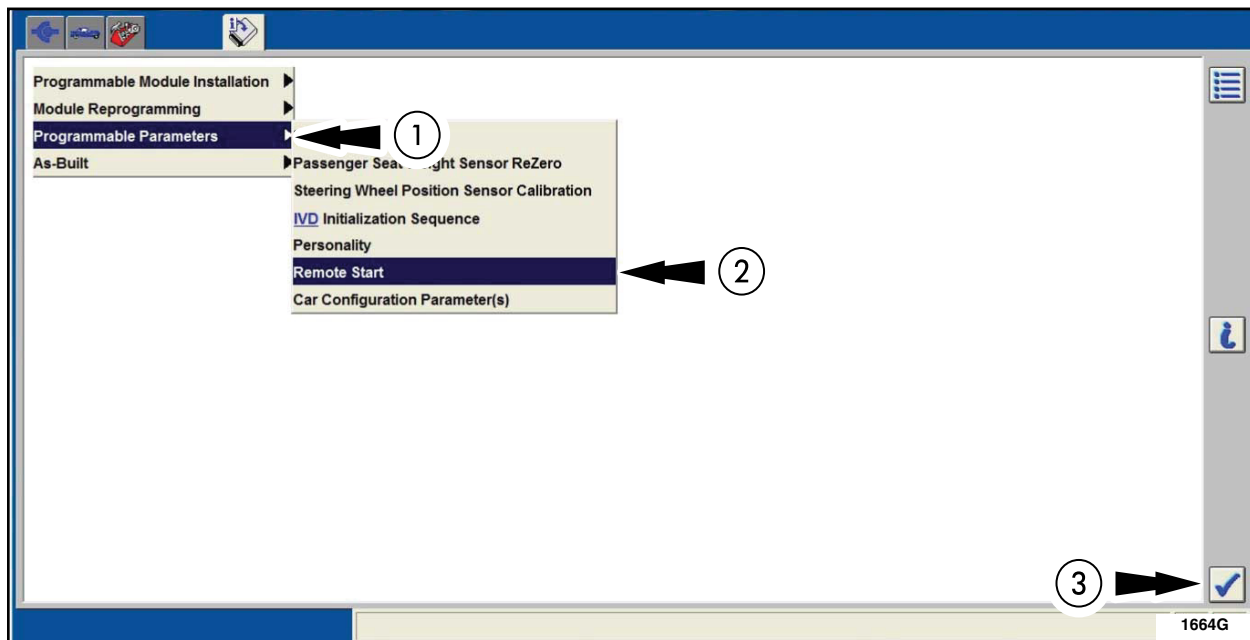

FIGURE 13
5. Return to Programmable Parameters (1) and then select Remote Start (2). Click the tick mark (3). See Figure 13.